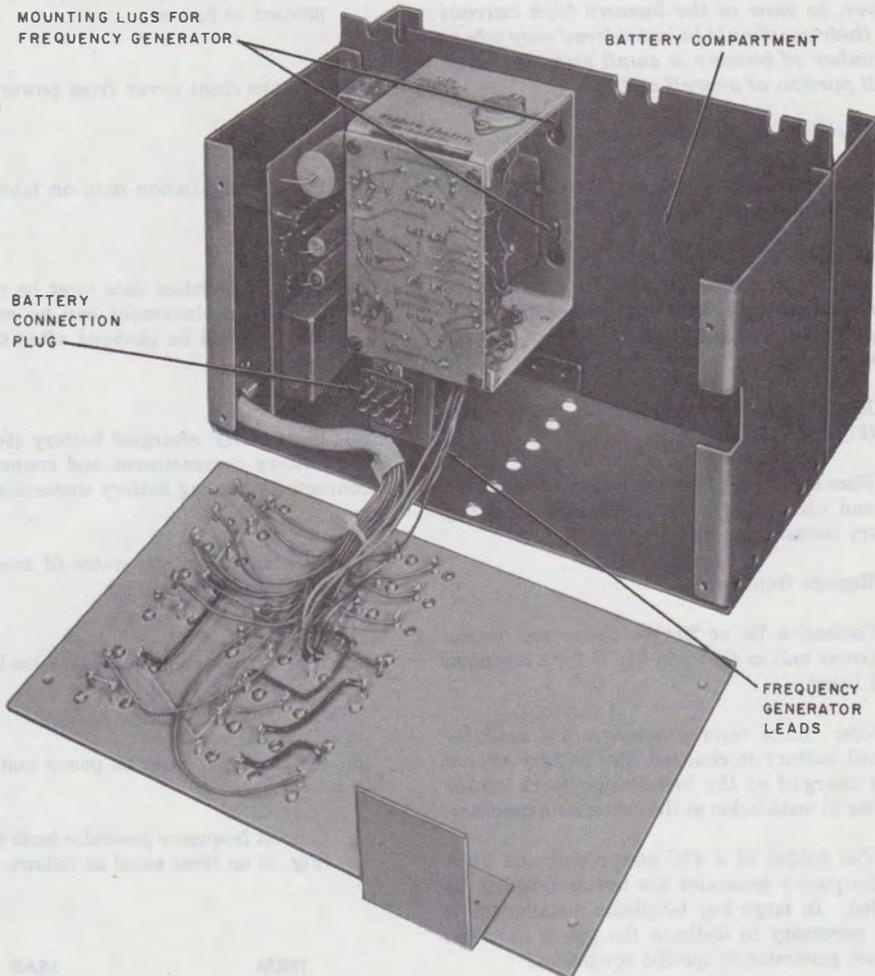
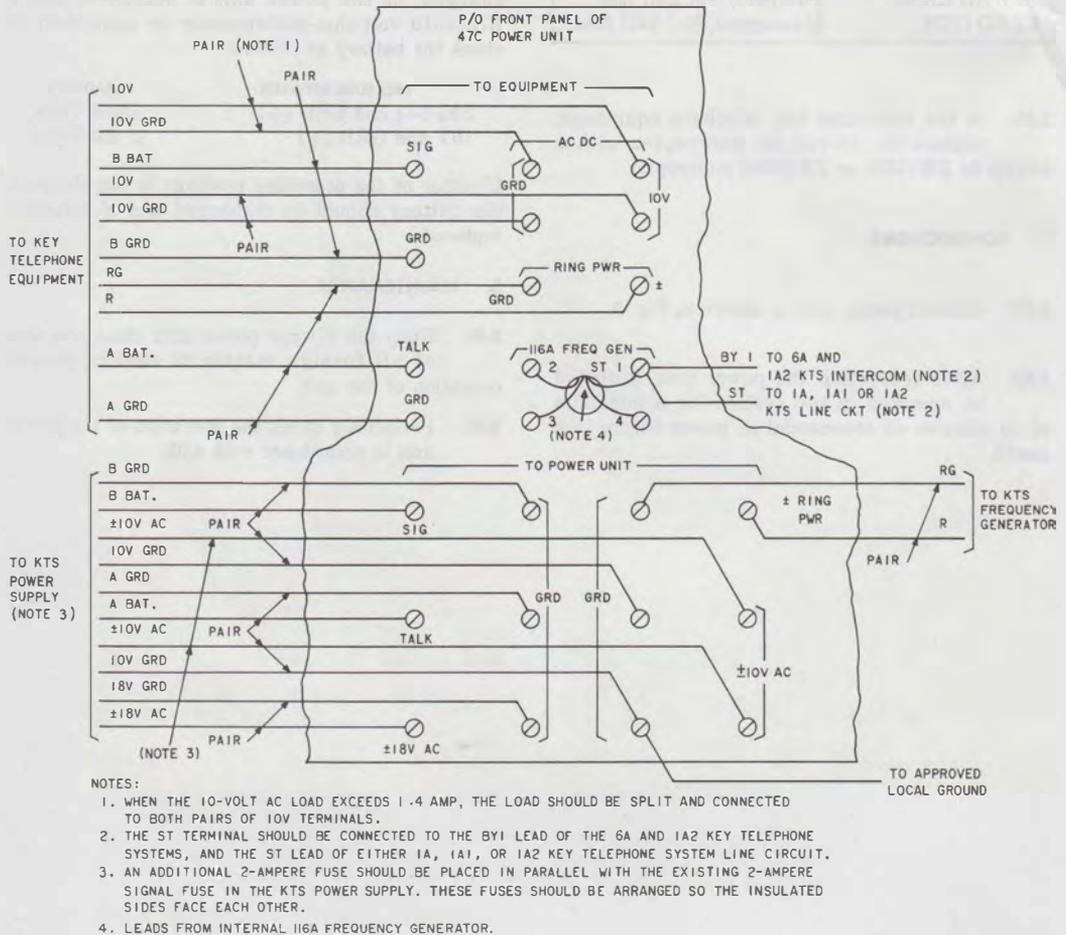

Fig. 2—47C Power Unit (Front Cover Removed)
Fig. 3—Connections for 47C Power Unit
2.04 The front panel (Fig. 2) of the power unit, mounting the input and output screw terminals and fuses, is removable.
**2.07 Battery (KS-20390, List 1):** Consists of a 24-volt (dc reserve) and a 10-volt dc (lamp reserve) battery in a single case. The battery is mounted in the battery compartment and connected to the power unit with a connector ended cable (Fig. 2). The battery will provide approximately three years of service at ambient temperatures ranging from 32° to 140°F. A label is provided on the battery for recording the installation date.
- (1) Remove front cover from 47C power unit (Fig. 2).
- (2) Place battery in power unit battery compartment and connect battery connector to mating battery connection plug.
- (3) Replace front cover.
- (4) Connect a 19- or 20-type power unit to the power unit as shown in Fig. 3 for a minimum of 16 hours.
- (1) Remove front cover from power unit (Fig. 2).
- (2) Record installation date on label provided on battery.
- (3) Place **fully charged** battery (see 3.03) in battery compartment and connect battery connector to mating battery connection plug.
- (4) Slide frequency generator (if used) in place on mounting lugs.
- (5) Insert frequency generator leads through hole in front panel.
- (6) Replace front cover on power unit
- (7) Connect frequency generator leads to terminals (Fig. 3) on front panel as follows:
**4.01** Connect power unit as shown in Fig. 3.